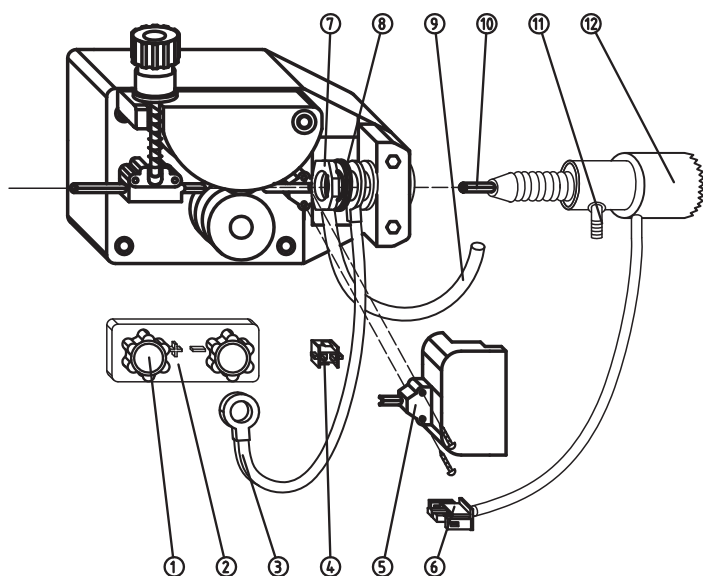

Fig.4
- Insert the torch in the appropriate seat, lock it in the wire feeder motor (using the nut of the kit) and make sure that the hole of the liner is lined up with the channel between the two rolls and the wire feeder. For better comprehension follow the drawings of FIGURE 4. Connect the gas hose to the receptacle on the torch and fix it with a metal clamp. Joint the two connectors of the torch switch, and cover with the insulation cover (5).